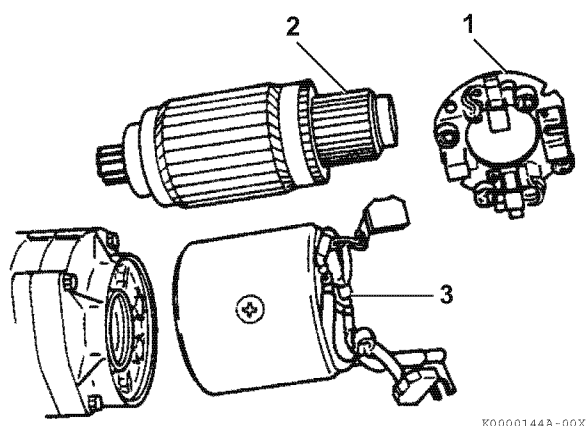

Figure 10-7
7. Remove the brush plate and holder (Figure 10-7, (1)).
8. Pull the field assembly (Figure 10-7, (3)) off the armature assembly (Figure 10-7, (2)).